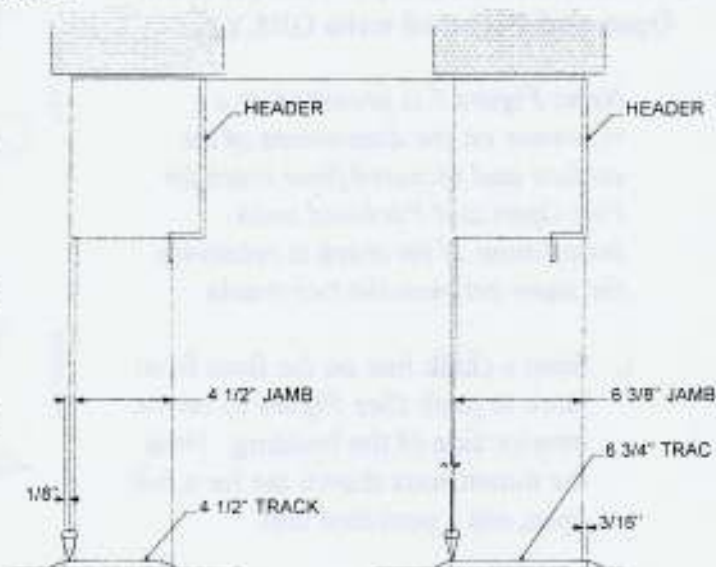

Figure 10
3. Locate the track 1/4 inch out from the chalk line. Check the floor track location with the plumb bob from the header (See Figure 10).